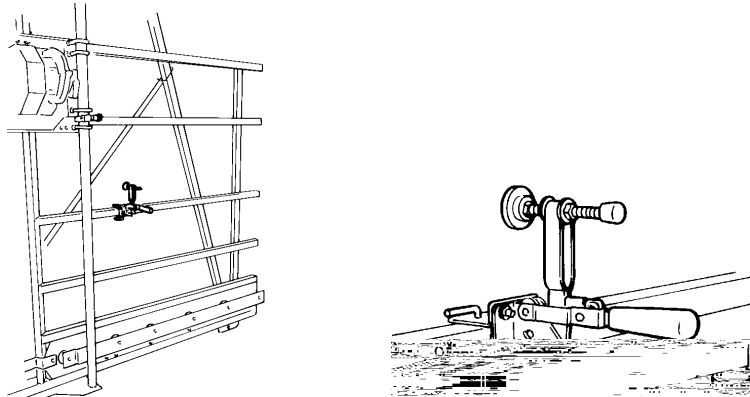

Figure 29: Adjustable Clamp (Routing)
3. Attach the adjustable clamp(s) on the frame as shown in Figure 29: insert the L-screw down through the hole in the clamp-mounting bracket and secure with the red knob.